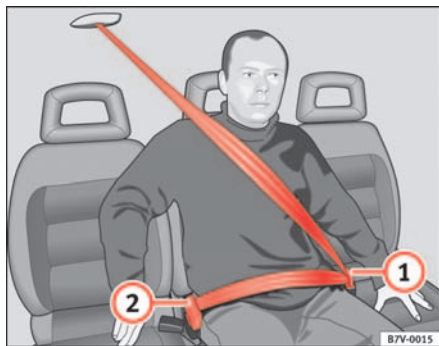

Fig. 17 Unfastening seat belt with two buckles
- Press the red button in the belt buckle ⇒ fig. 17 ①. The latch plate is released and springs out.
- Press the red button in the belt buckle ②. The latch plate is released and springs out.